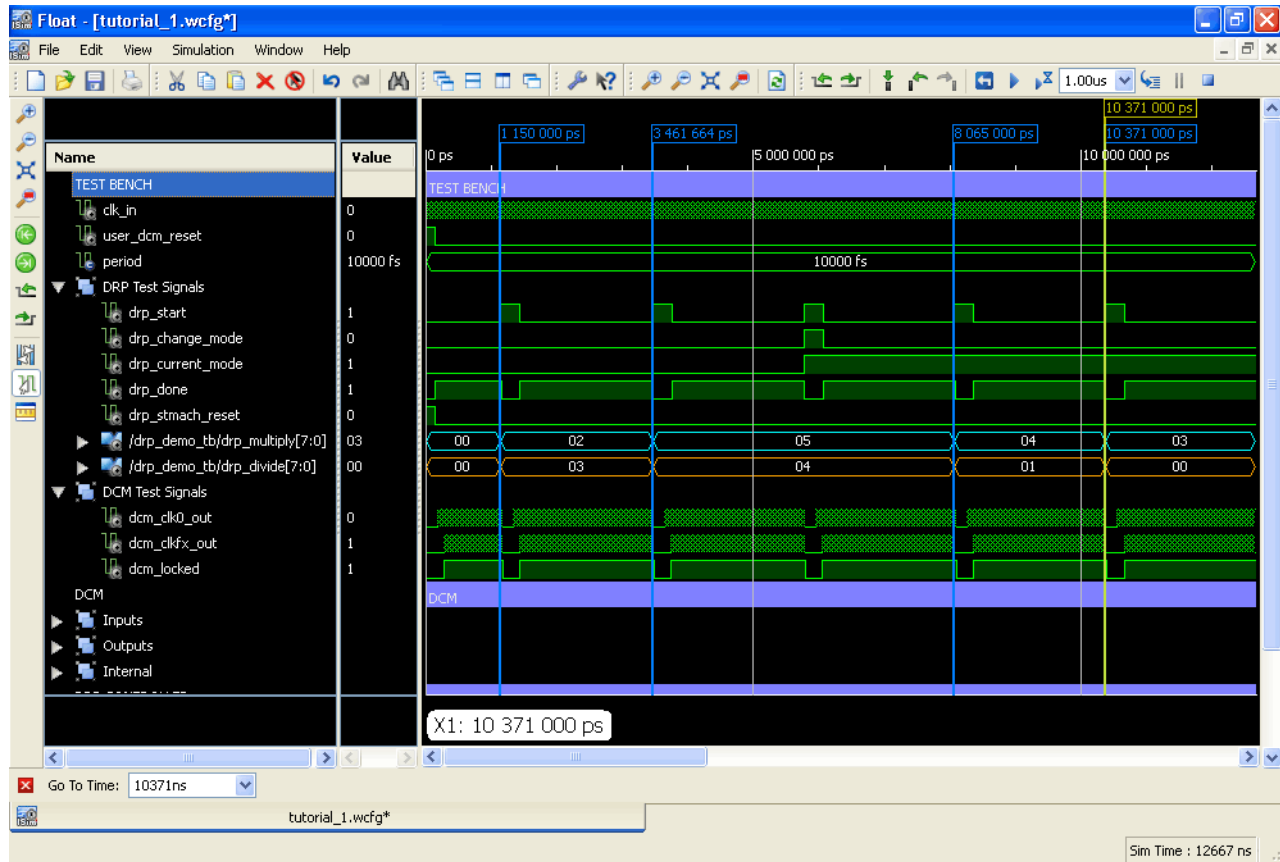

Figure 4-36: Wave Window
- Repeat these steps for all 4 tests performed by the test bench. The wave window should look similar to Figure 4-36.